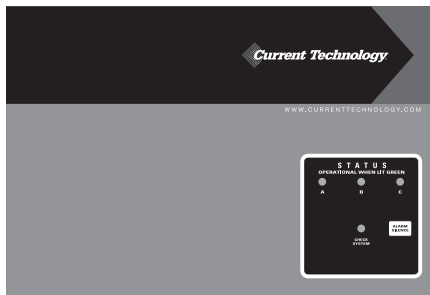

Figure 12
► If your TG3 has M1 Standard Monitoring (see Figure 12).